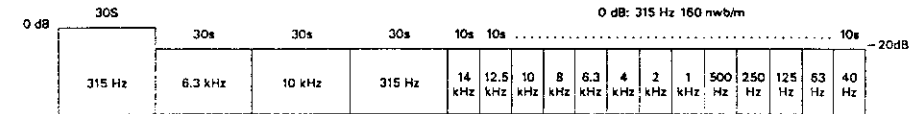

Fig. 7-1 Constants of the test tape STD-331B
- STD-331B : Playback adjustments (See Fig. 7-1)